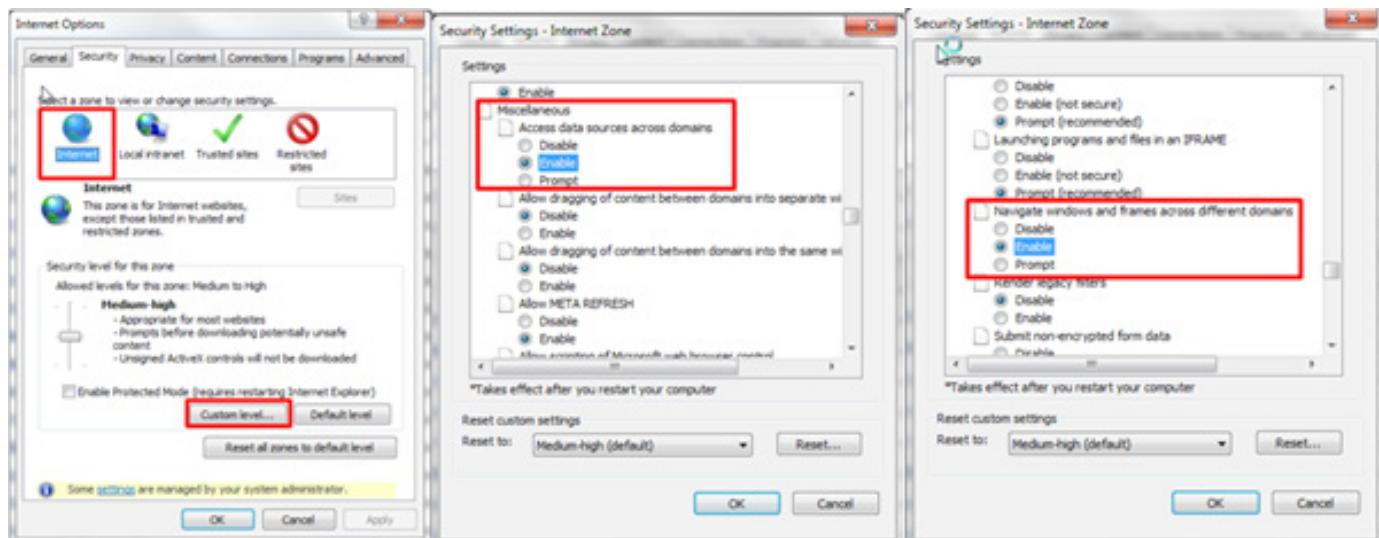

Figure 4-67 Internet install
- Please enable “Cross-domain browsing windows and frames” and “Access data sources through domains” on the “Security” tab in Internet Explorer “Internet Options”, as shown in Figure 4-67.